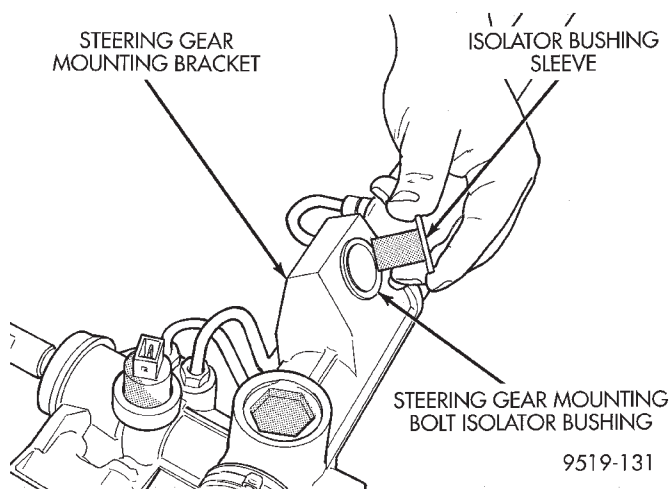

Fig. 26 Mounting Bolt Isolator Sleeve Installation
(3) Install mounting bolt isolator bushing sleeve into isolator bushing by pressing the sleeve into the bushing by hand (Fig. 26).